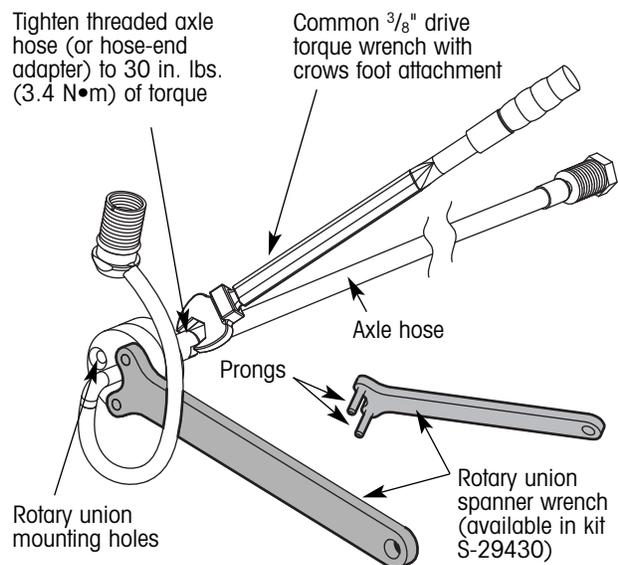

Figure 16. Rotary union spanner wrench use
4. Using the rotary union spanner wrench (figure 16), screw the threaded rotary union into the threaded axle hose (or hose-end adapter) and tighten to 30 in. lbs. (3.4 N•m) of torque.